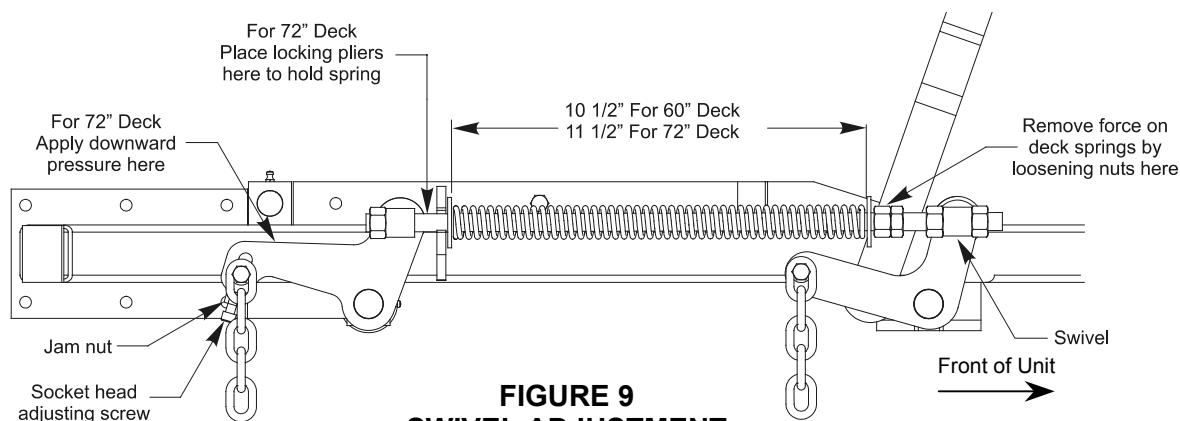

FIGURE 9
- c) Check tire pressure of all four (4) tires. If needed, adjust to 13 psi (90 kPa).
- e) Raise the deck to the 5" height position (also transport position) and take all force off of the two large deck lift springs by loosening the nuts at the front of each spring. See Figure 9.
For 72" units – Lower the deck to the 1-1/2" height position. Force the left rear deck support arm downward about 1/4" to get the deck to rest at the 1-1/2" height position. Place locking pliers between the rear swivel and spring stop to hold the deck in this position. See Figure 9.
- I) Raise deck lift lever to the 5" cutting height position See Figure 7. Adjust spring compression until proper distance is obtained between the two large washers (See Figure 9). Adjustment is made by turning the nut at the front of each spring (clockwise will shorten the spring, counter-clockwise will lengthen the spring). Lock in position with jam nuts.